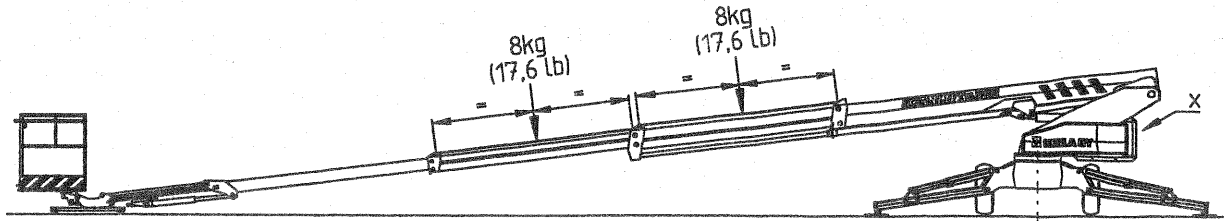

Figure 15-2. Adjustment of chain tension of booms
1. Support the MEWP on the outriggers with the wheels slightly risen from the ground (figure 15-2).